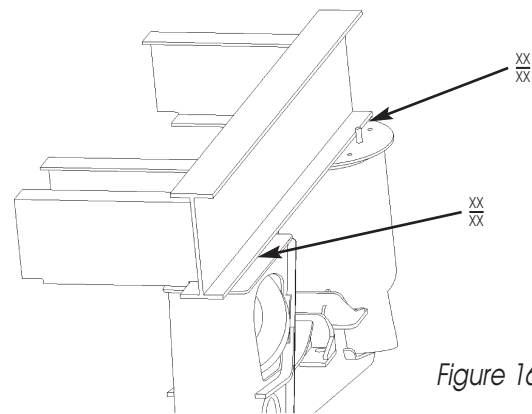

Figure 16
- Weld all miscellaneous suspension componentry using the above parameters. Starting and stopping points should be no closer than 1/2" from the mating edge of the suspension component and the trailer frame and/or the crossmembers. The following figures are examples of areas that require welding (see figures 16 & 17).